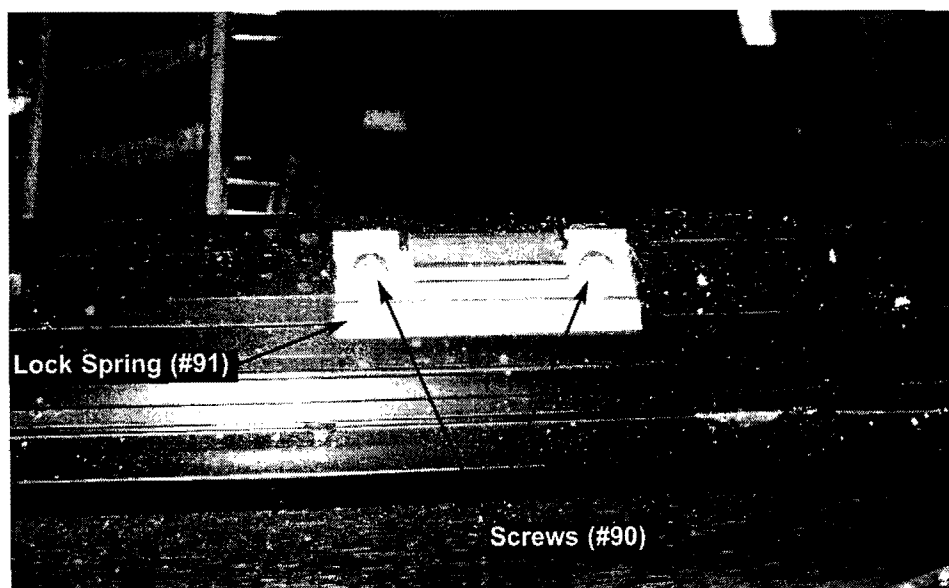

FIGURE 5
Step 4- Remove the Lock Springs (#91) from the bottom of the window Back Frame secured with screws (#90). (Figure 5) These screws (2 in each Lock Spring) are threaded into Spacer Block (#92) on the outside of the Back Frame. Since the Spacer Blocks are on the outside of the Back Frame they cannot easily be removed. Either simply replace the screws that held the Lock Springs to fill the screw holes, or use Manus-Bond to fill the holes so water will not run through the holes and get inside the bus sidewall.